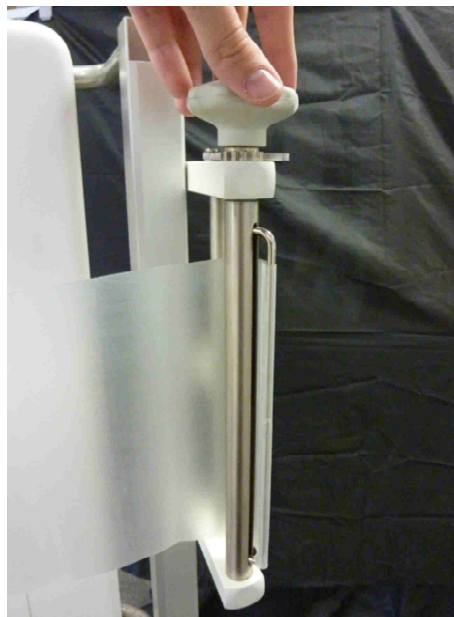

Figure 4-5
Step 4: Hold the band and turn the hand wheel to fasten the compression band (Figure 4-5).